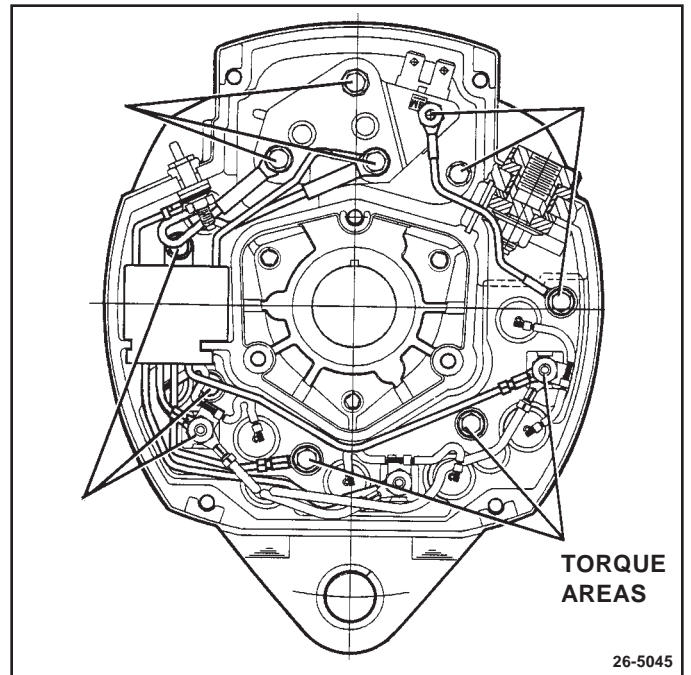

Figure 44. Fastener Torques
- 27. Check all connections and fasteners in the electrical compartment for tightness. Fig. 44 shows location of fasteners with torques referenced in this bulletin. Check wires to be sure they are not routed against sharp edges.
- 28. Edges of end cover gasket (47) must be free of cracks or other deterioration to assure sealing of the electronics compartment, both around the outside and around the